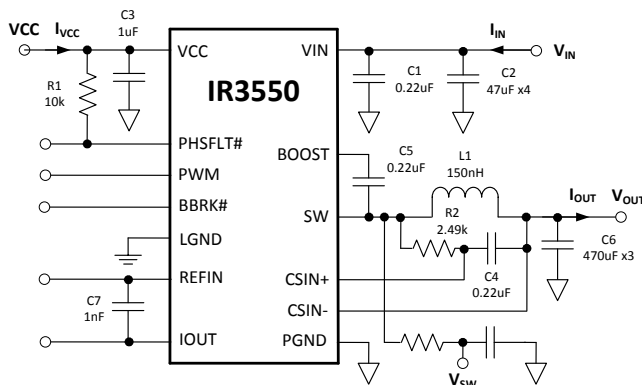

Figure 32: IR3550 Power Loss Measurement
Circuit of Figure 32, $V_{IN}=12V$, $V_{OUT}=1.2V$, $f_{SW} = 400kHz$, $L=150nH$ (0.29mΩ), $VCC=7V$, $T_{AMBIENT} = 25^{\circ}C$, no heat sink, no air flow, 8-layer PCB board of 3.7" (L) x 2.6" (W), no PWM controller loss, no inductor loss, unless specified otherwise.
Circuit of Figure 32, $V_{IN}=12V$, $V_{OUT}=1.2V$, $f_{SW} = 400kHz$, $L=150nH$ (0.29mΩ), $V_{CC}=7V$, $T_{AMBIENT} = 25^{\circ}C$, no heat sink, no air flow, 8-layer PCB board of 3.7" (L) x 2.6" (W), no PWM controller loss, no inductor loss, unless specified otherwise.
The single-phase IR3550 efficiency and power loss measurement circuit is shown in Figure 32.